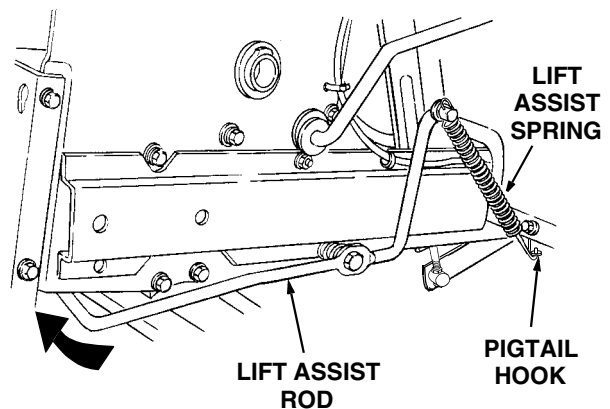

Figure 46
4. While lowering the rear end of the lift assist rod, guide the lower spring hook into the pigtail hook at the lower front of the fender (See Figure 46).
5. Tension the spring by pushing downward and then inward on the rear of the lift assist rod so that the flange at rearward end of the rod locks inside the tractor frame (See Figure 46).